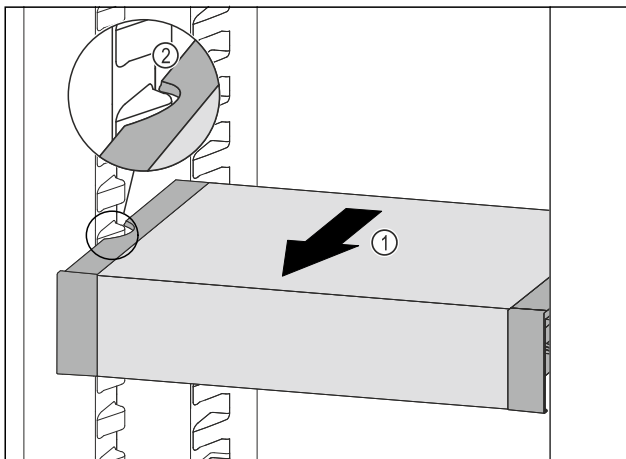

Fig. 203
- ▶ Pull VarioSafe forwards Fig. 203 (1) until the recesses in the side of the VarioSafe are at the level of the support rib in the fridge section. Fig. 203 (2)